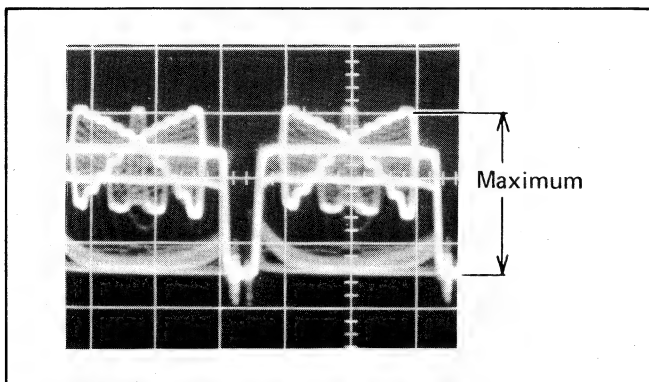

Fig. 11
- Adjust the bias control, VR318, so that the YL signal is maximized, as shown in Fig. 11.